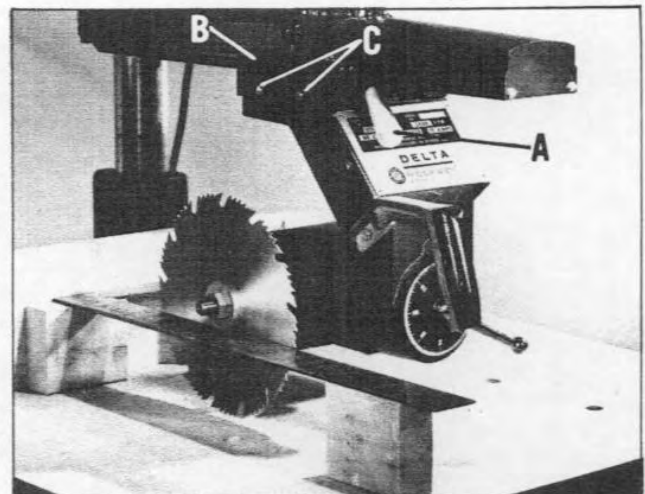

Fig. 29
1. Take a piece of 3/4" plywood, at least 5" wide, and clamp it between the table boards in place of the fence, as shown in Fig. 29.
2. Using three pieces of 2 x 4's place them on the table, as shown. Lay a square on the 2 x 4's with one end of the square against the plywood fence, and the other end against the saw blade, as shown in Fig. 29.
3. If the blade is not parallel to the square, loosen yoke clamping handle (A) and remove the bearing cover (B) by removing two screws (C) Fig. 29.